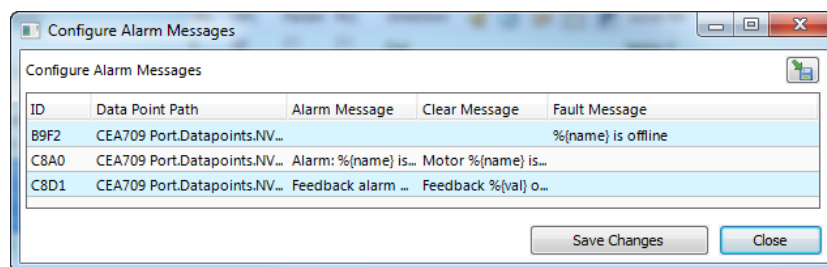

Figure 227: Spreadsheet for multi-edit of alarm messages.
- **Configure Alarm Messages:** Use this option from the context menu for editing alarm messages (alarm, clear, fault) for all data points in the selection. A dialog with a spreadsheet view appears as shown in Figure 227. Edit the messages directly in the spreadsheet. Alternatively, click on the export button  to export the spreadsheet as a CSV file for editing in Excel. Import a CSV file with alarm messages in the menu **Tools** → **Import alarm messages**.